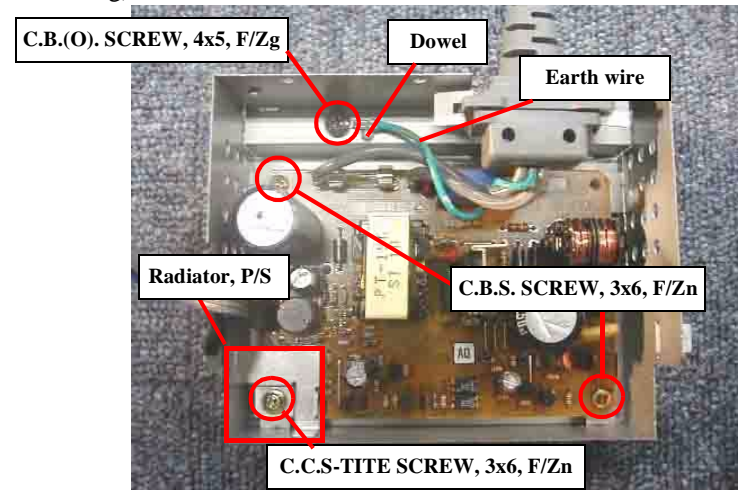

Figure 4-25. Power supply board removal
- Make sure to set the earth wire on the dowel of the Lower power supply board shield plate (Refer to Figure 4-25) (* The product with 110V type AC cable does not have the earth line)